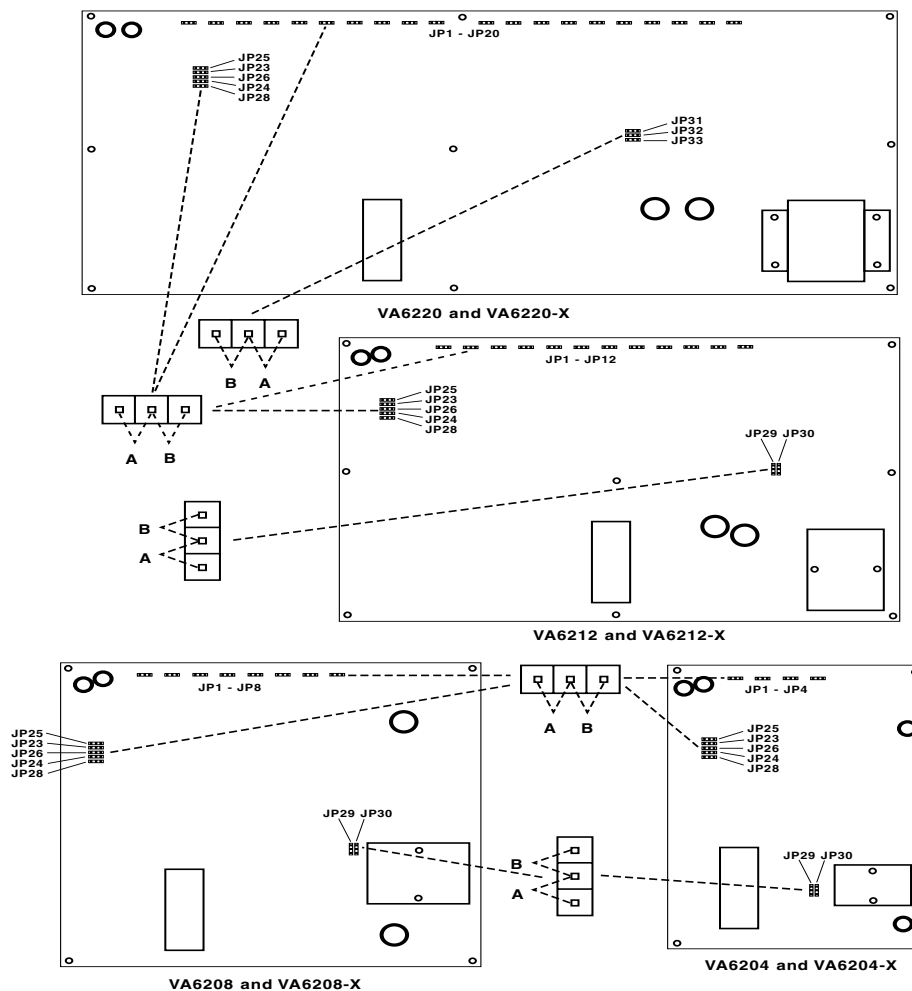

Figure 1. Jumper Settings - VA6200 Series
2. Set the jumpers as required for your application. Refer to Figure 1 and Table A.